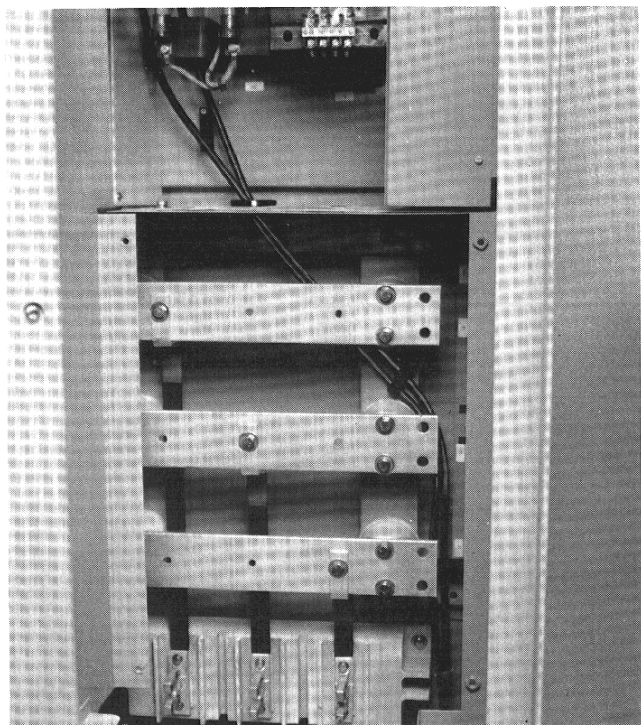

Figure 32. Exposed main bus after removal of main bus barrier.
7. Remove the horizontal bus barrier bolts as shown in Fig. 31, and then lift the barrier out of the enclosure. The horizontal bus is then exposed as shown in Fig. 32.